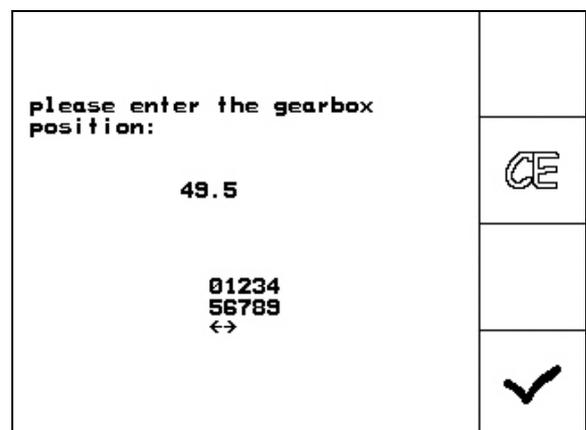

Fig. 29
-  Confirm the setting and enter the figure that is indicated, on the scale, by the gearbox setting lever in the now open input block (Fig. 29).